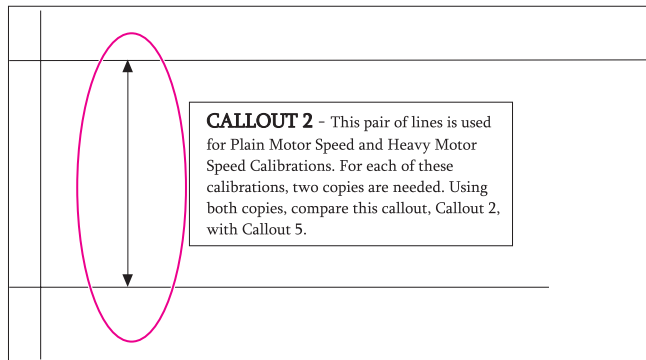
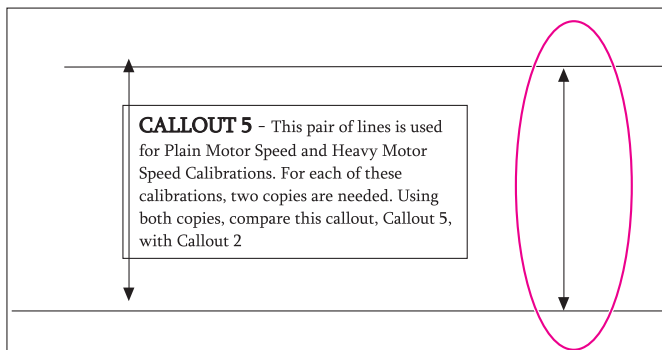

Figure 215. ADF motor speed calibration (1 of 2)
Figure 216. ADF motor speed calibration (1 of 2)
- 6 Use a metric ruler (with a millimeter scale) to measure the space between the callout 2 (upper left corner of the target page) and callout 5 (lower right corner of the target page) lines as shown in figure 215 and figure 216. Make sure that you make these measurements on the printed *copy*. For example, callout 5 is *wider* than callout 2 by XX mm, or callout 5 is *narrower* than callout 2 by XX mm.